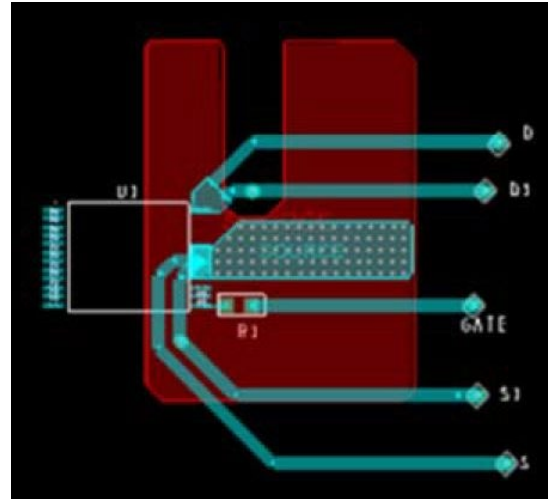

Figure 26. Thermal Resistance Test Conditions for PowiGaN Devices (INN3878C, INN3879C and INN3870C).
Testing performed on custom thermal test PCB as shown in Figure 26. The test board consists of 2 layers of 2 oz. Cu with the InSOP package mounted to the top surface and connected to a bottom layer Cu heat sinking area of 550 mm².
- Please see Figure 26.